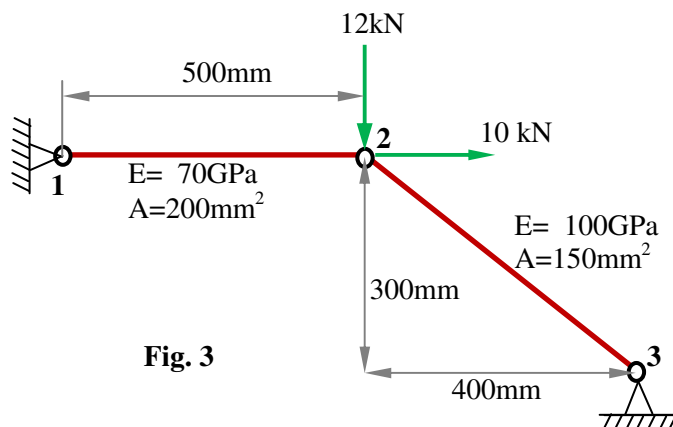

Fig. 3
b) Calculate the deflections of node 2 and 3, stresses at each element and reaction forces of the truss shown in **Fig. 3**. 10M